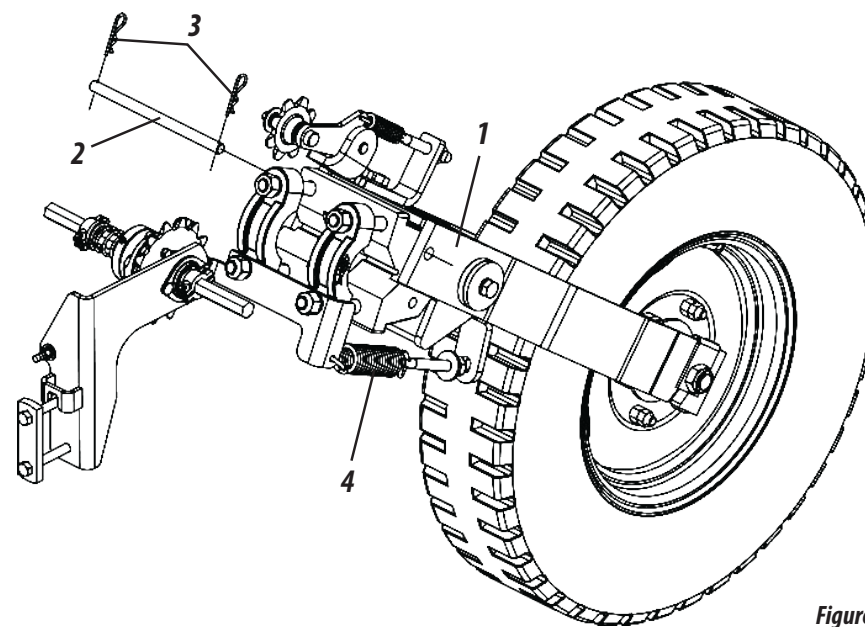

Figure 53
FIXATION AND ARTICULATION ADJUSTMENT OF THE WHEELS (FIGURE 53)
- 1- For conventional planting, lock the wheels (1) through the pin (2) and locks (3).
- 3- The wheels (1) are equipped with traction springs (4), for greater adherence to the ground. Do not operate the seeder without them, **as shown in Figure 53.**